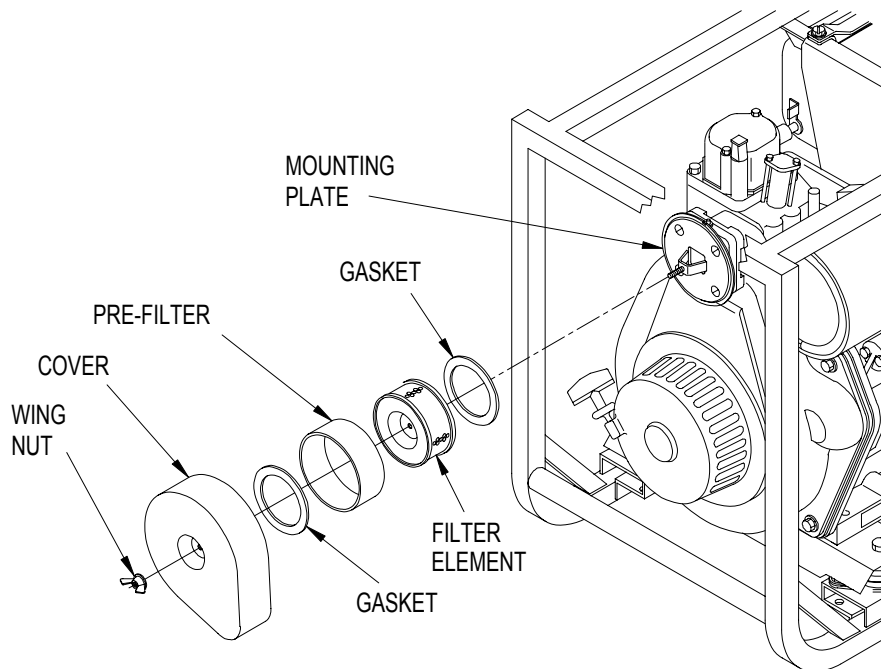

Figure 4-3. Air Filter Elements
- (1) Shut down generator set.
- (2) Remove wing nut (Figure 4-3), cover, and filter element with pre-filter.
- (3) Remove pre-filter from filter element.
- (4) If necessary, remove gaskets from mounting plate and cover. Clean adhesive residue from surfaces.
- (1) If removed, install new gaskets (Figure 4-3) on mounting plate and cover.
- (2) Soak new pre-filter in clean engine oil (Item 14, Appendix E) and squeeze out ALL excess oil.
- (3) Install pre-filter over filter element. Pre-filter should fit snugly over filter element.
- (4) Position filter element with pre-filter and cover on mounting plate.
- (5) Install wing nut.